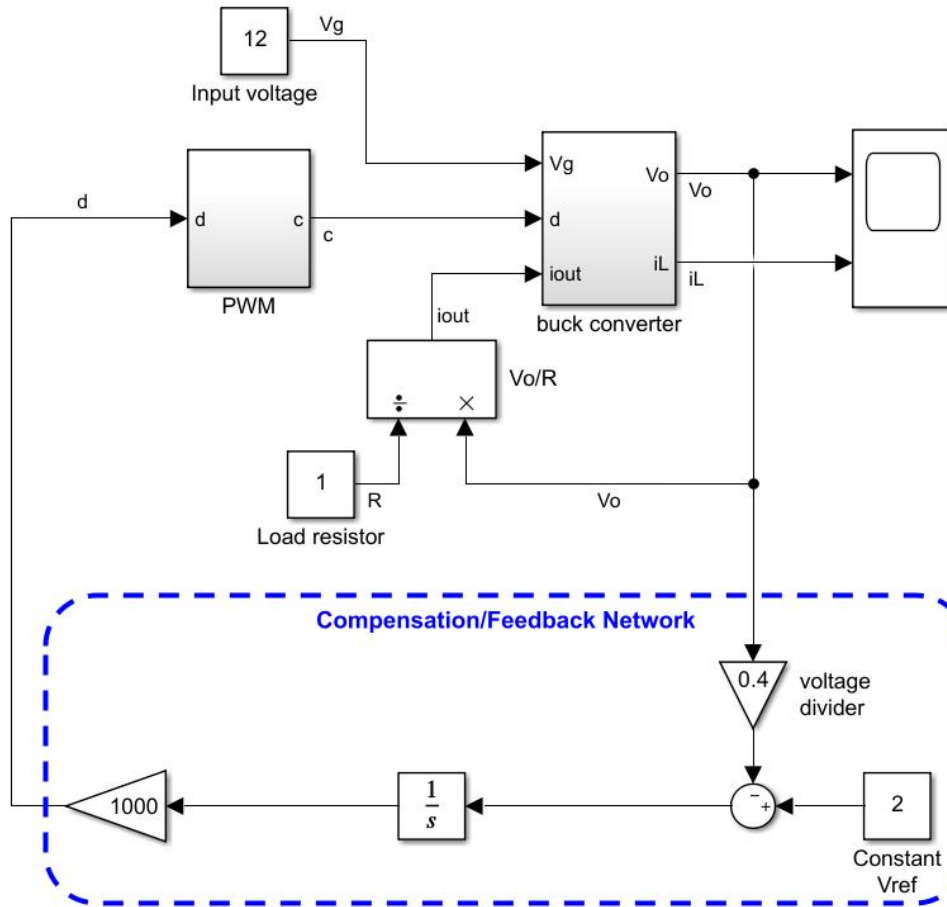

Figure 7: Closed-loops buck converter with a simple compensation network.
To complete the loop, we connect the output v_o to the voltage divider, then replace the constant d for the duty cycle with the output of our compensation network as shown in Figure 7.
1. Modify your open-loop system to create the closed-loop system shown in Figure 7.